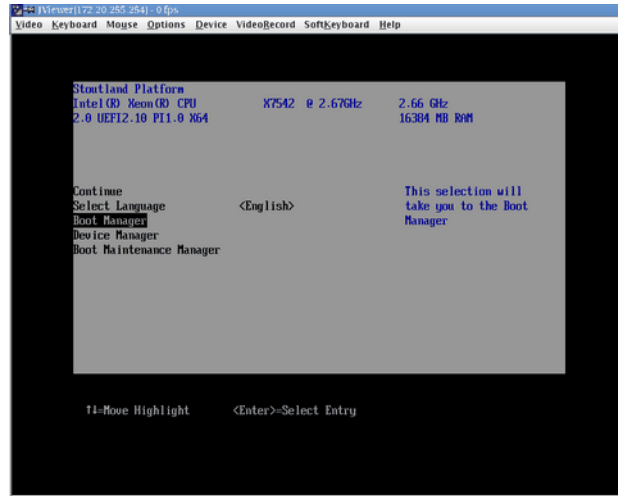

Figure 3-18 Device Manager **Boot Manager** Selection
4. From the BIOS setup utility, select **Boot Manager**, as shown in Figure 3-18 on page 53.